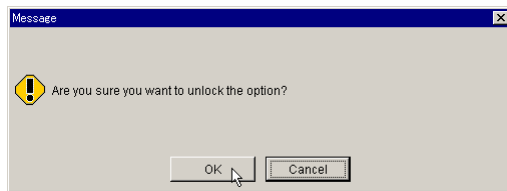

Figure 4.4 SNMP Unlock Confirmation Message
- A screen appears, requesting a confirmation to unlock the SNMP option (see Figure 4.4). Click the **OK** button.
9. A screen appears, requesting a confirmation to unlock the SNMP option (Figure 4.4). Click the **OK** button.